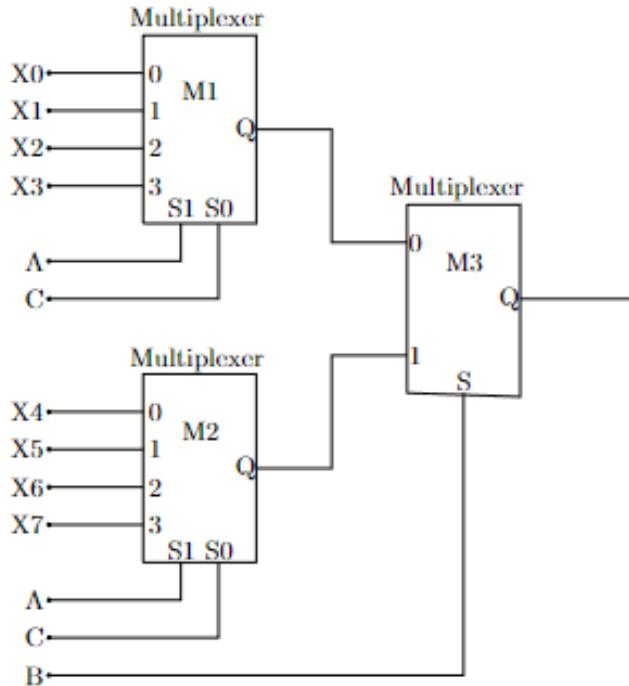

Fig. 4.26: Digital Circuit
51. A Boolean digital circuit is composed using two 4-input multiplexers $M1$ and $M2$ and one 2-input multiplexer $M3$ as shown in the Fig. 4.26. $X0-X7$ are the inputs of the multiplexers $M1$ and $M2$ and could be connected to either 0 or 1. The select lines of the multiplexers are connected to Boolean variables A, B and C as shown. Which one of the following set of values of $(X0, X1, X2, X3, X4, X5, X6, X7)$ will realise the Boolean function $\overline{A} + \overline{AC} + A\overline{BC}$?